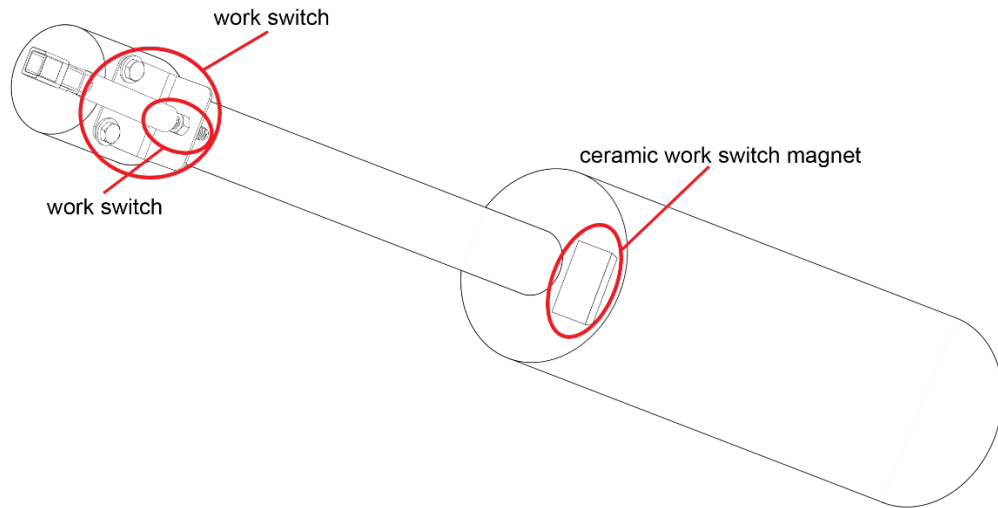

Figure 18: A work switch installed on an implement where no bracket previously existed
2. Position the work switch bracket onto the existing work switch bracket, if one exists. Otherwise, find a mounting location where the work switch and magnet will be moved apart when the implement is out of the ground, as shown in Figure 18.